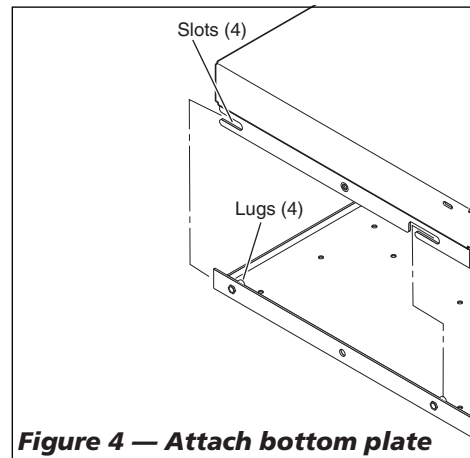

Figure 4 — Attach bottom plate
- Insert the lugs on the bottom plate into the slots on the top plate and **slide the bottom plate into position** (Figure 4).